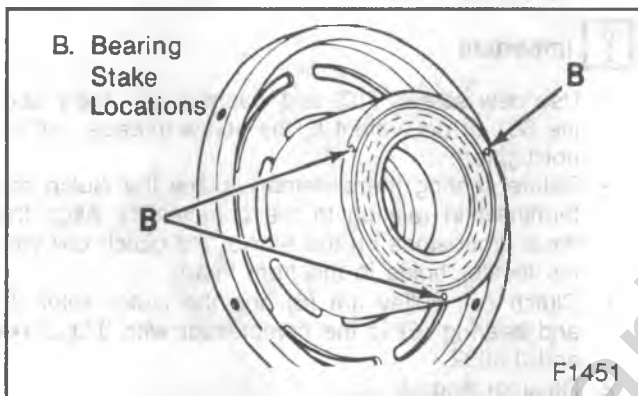

Figure 100—Staking the Bearing
- Using a center punch with a 45 degree angle point, stake 1.1-1.4 mm (0.045-0.55-inch) deep the bearing in three places 120 degrees apart (figure 100).